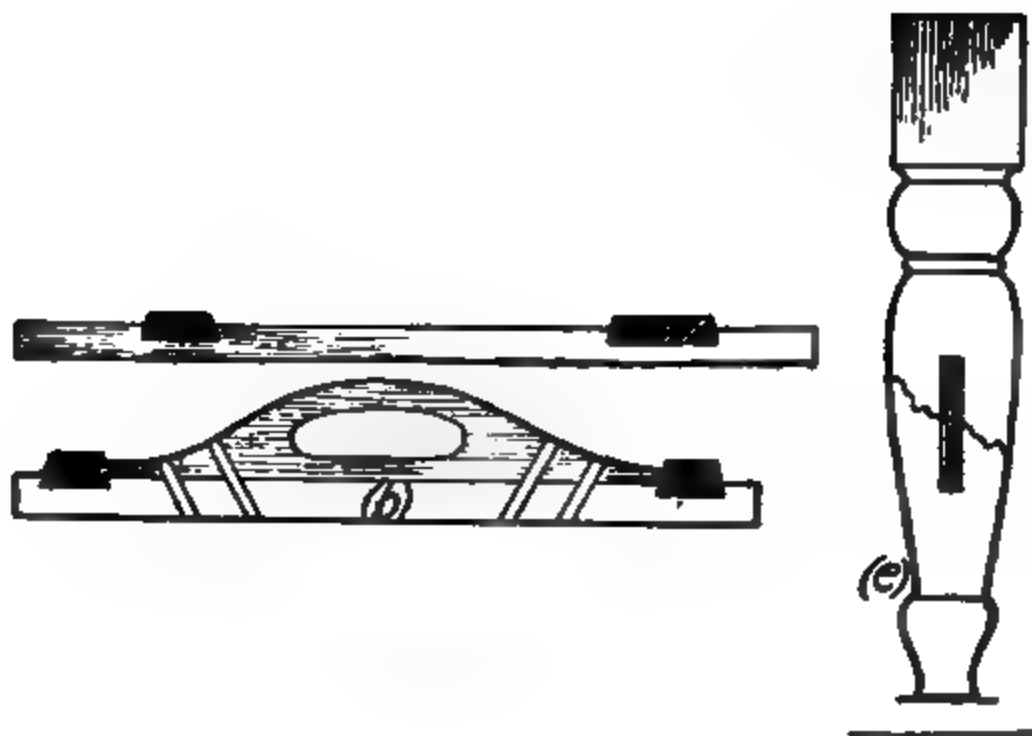

Fig. 9.—(a) Keyed clamp; (b) copper lid handle; (c) marking pieces for dowel holes; (d) dowels in position; (e, f, g, h) repairs to furniture.
The next variety (Fig. 9, *a*) is known as the dovetail or keyed clamp. It is sunk into the board about one-third of its depth, and dovetailed on the edges and along its length, although the length-wise taper is not essential except in so far as it ensures a good fit being made by driving in the clamp. This is the best clamp for a copper lid, in which nails or screws should not be used. Fig. 9, *b*, shows how the handle for the lid can be fixed with its ends cut into the clamp, and wooden dowels driven on the skew right through to the under side of the lid. Dowels through the clamps will give them additional strength.
correctly on both pieces of wood. Fig. 9, *c*, shows the clamp and the board with gauge lines down the middle and squared lines to intersect them at the points where the boring will start. Gauging must be done from the "face" side of both pieces. The depth of the holes will vary according to the work, but  $1\frac{1}{4}$  in. will be about right. As a rule, the holes are countersunk round the top to provide a small channel to hold any surplus glue which may be scraped off the dowel as it enters. A little glue should be dropped in the hole and the dowel driven in. As these dowels fit tightly, *the air is compressed behind them and will split the wood unless one or two lines be drawn down the dowel with a marking gauge to give the air an outlet.* Care must be taken to cut the dowels off a little shorter than the depth of the hole in the clamp. If the top ends be slightly filed off, as shown (Fig. 9, *d*), they will enter the hole more easily. When everything is quite ready for gluing, the holes, dowels, and joints should be well covered with glue, as the end grain of the wood will absorb most of it.
Dowels are also used to strengthen joints in table and other tops, but their chief use is in chair-work. They are particularly handy in repairing a broken leg or back. In Fig. 9, *e* and *f* show the "repair" in two kinds of legs. To mark the spot for boring,
The right position for dowels in a square leg is shown in Fig. 9, *g*.
*Splicing*.—Fig. 9, *h*, illustrates a stronger joint than dowelling, which necessitates the introduction of a new piece of wood and repolishing.